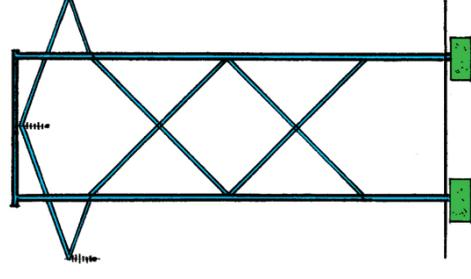

Figure 24
2. Why do you think the pylon in Figure 24 is designed the way it is, and not in the way shown in Figure 25?
The cross bracing (or triangulation) in Figure 24 gives more stability and rigidity than the horizontal bracing in Figure 25.
3. What do you think is indicated by the green parts in Figure 24 and Figures 26 to 29?